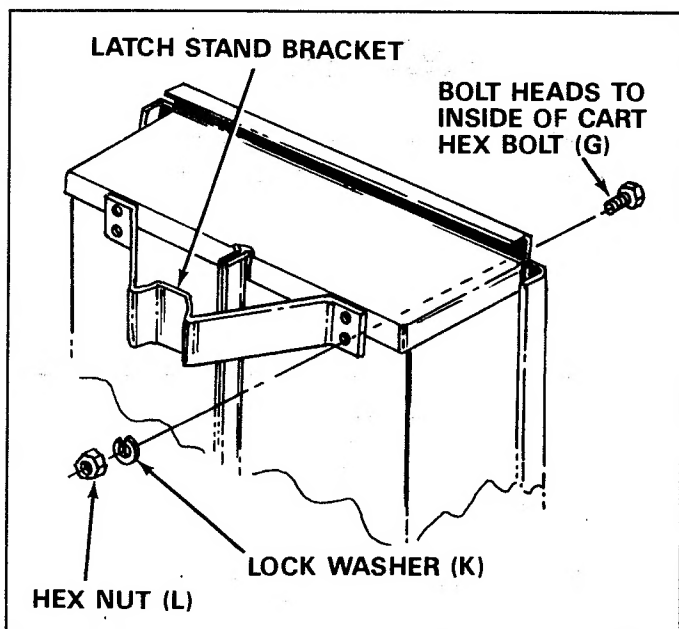

FIGURE 8
13. Assemble latch stand bracket using four 1/4" x 5/8" hex bolts (G), lock washers (K) and hex nuts (L). See figure 8.